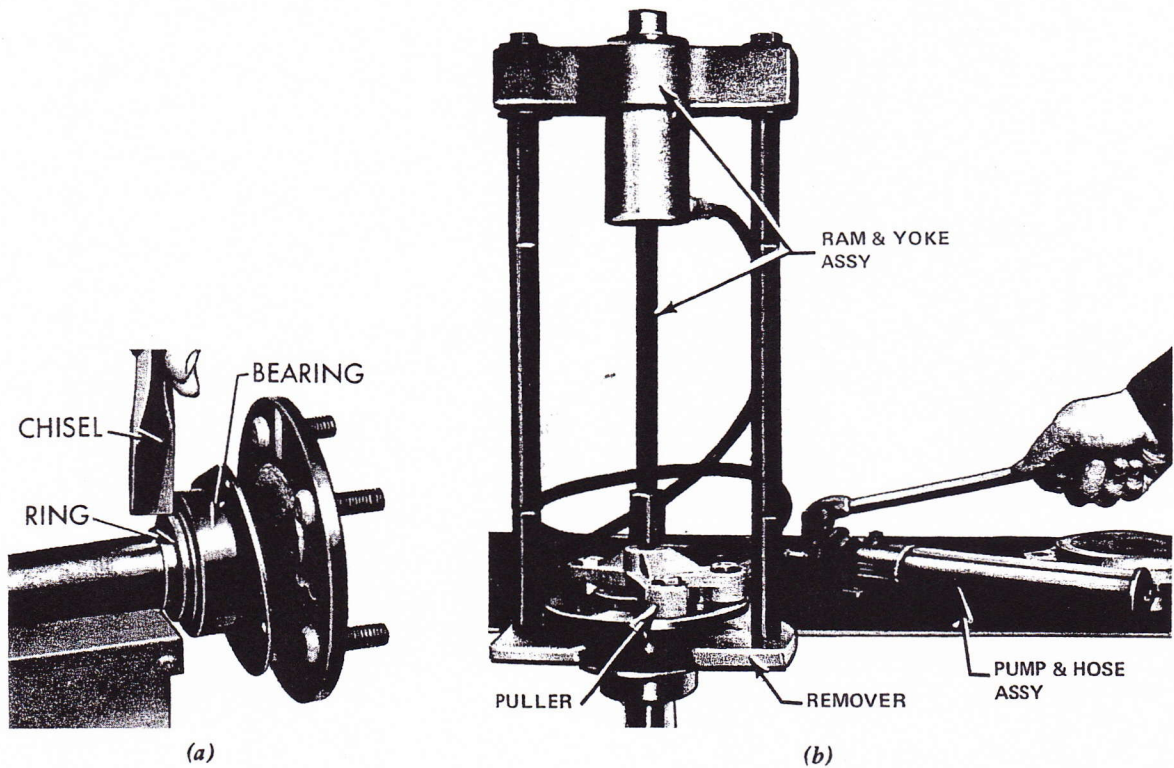

FIGURE 4-15. Removing Lock and Bearing from Axle. (a) Using a cold chisel to notch the retaining ring; (b) removing the rear axle bearing.
4. Do not use an acetylene torch to remove a pressed lock or bearing from the axle. You will remove the temper (strength and hardness) from the shaft. Instead, drill into or notch the retainer ring in several places with a cold chisel to break the press (Figure 4-15). Use an arbor press or puller to remove the bearing from the axle shaft or housing.